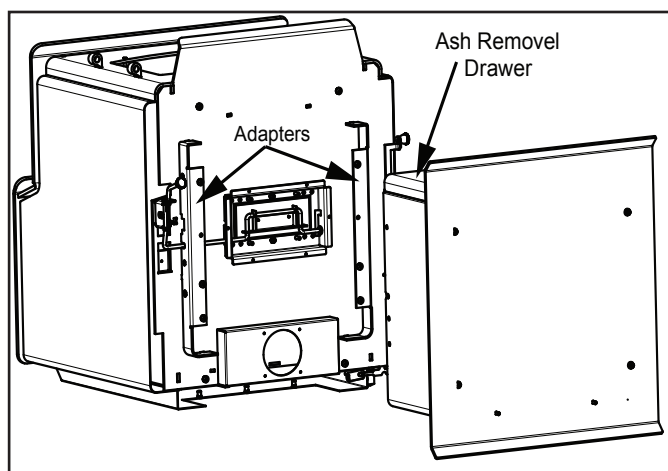

Figure 18.1
2. Slide pedestal over adapter on bottom of appliance and secure with four screws using phillips head screwdriver (Figure 18.1 on page 18).